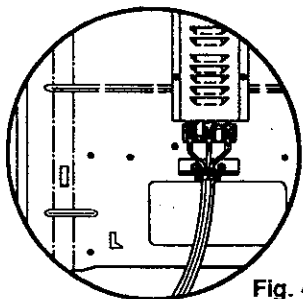

Fig. 4A
- Remove the junction block access cover (on range back). See Fig. 4A or Fig. 4B. Some models will have a one-piece wire cover as shown in Fig. 4B. When reinstalling the one-piece wire cover, make sure that wire does not become pinched between wire cover and main back.